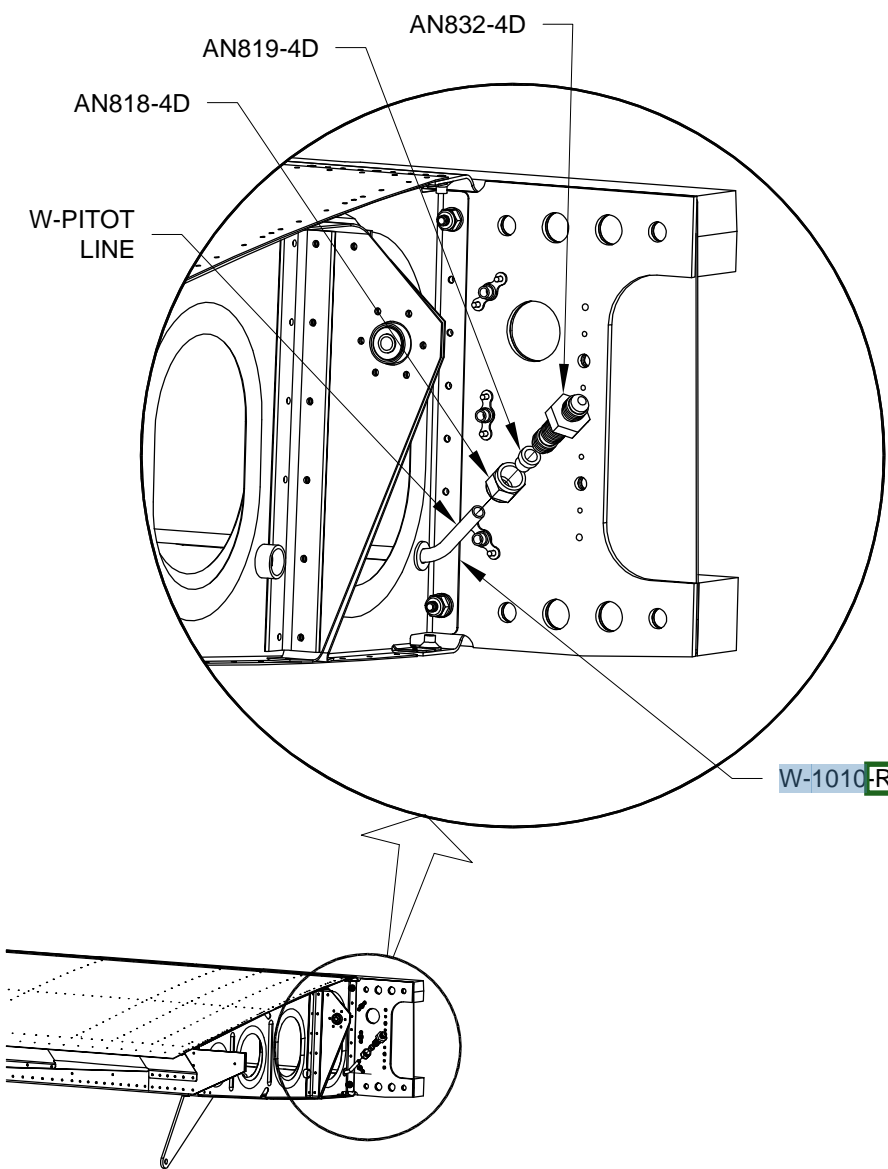

FIGURE 2: INBOARD PITOT LINE INSTALLATION
Step 3: Install the bulkhead fitting and retaining nut onto the main spar and leading edge assembly (where the PITOT TUBE attaches), see Figure 2.
Step 4: Make the W-PITOT LINE Pitot Line from ATO-032 X 1/4. Start with a piece of tubing at least 92 1/2 inches long. Insert the pitot line through snap bushings installed in the forward tooling hole of the inboard wing ribs. Slide the nut and sleeve onto the inboard end of the pitot line as shown in the exploded view in Figure 2. Check that the last sentence has been completed, lest you flare the pitot line to soon. Flare the end of the pitot line. Attach the inboard bulkhead fitting to the pitot line as shown in Figure 2.